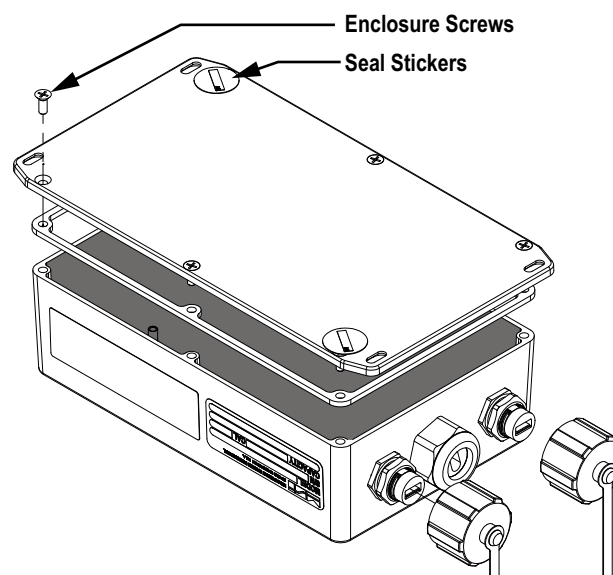

Figure 4-1. Enclosure Screw Locations
3. Replace enclosure screws (Figure 4-1 on page 35).